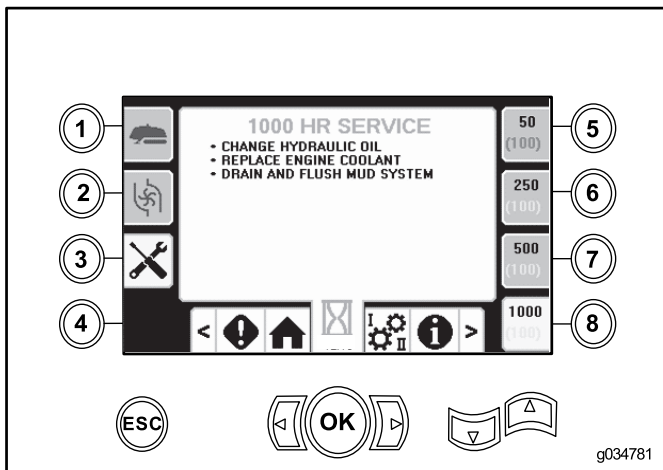

Figure 9
- Button 8—1,000-hour maintenance schedule (Figure 9)